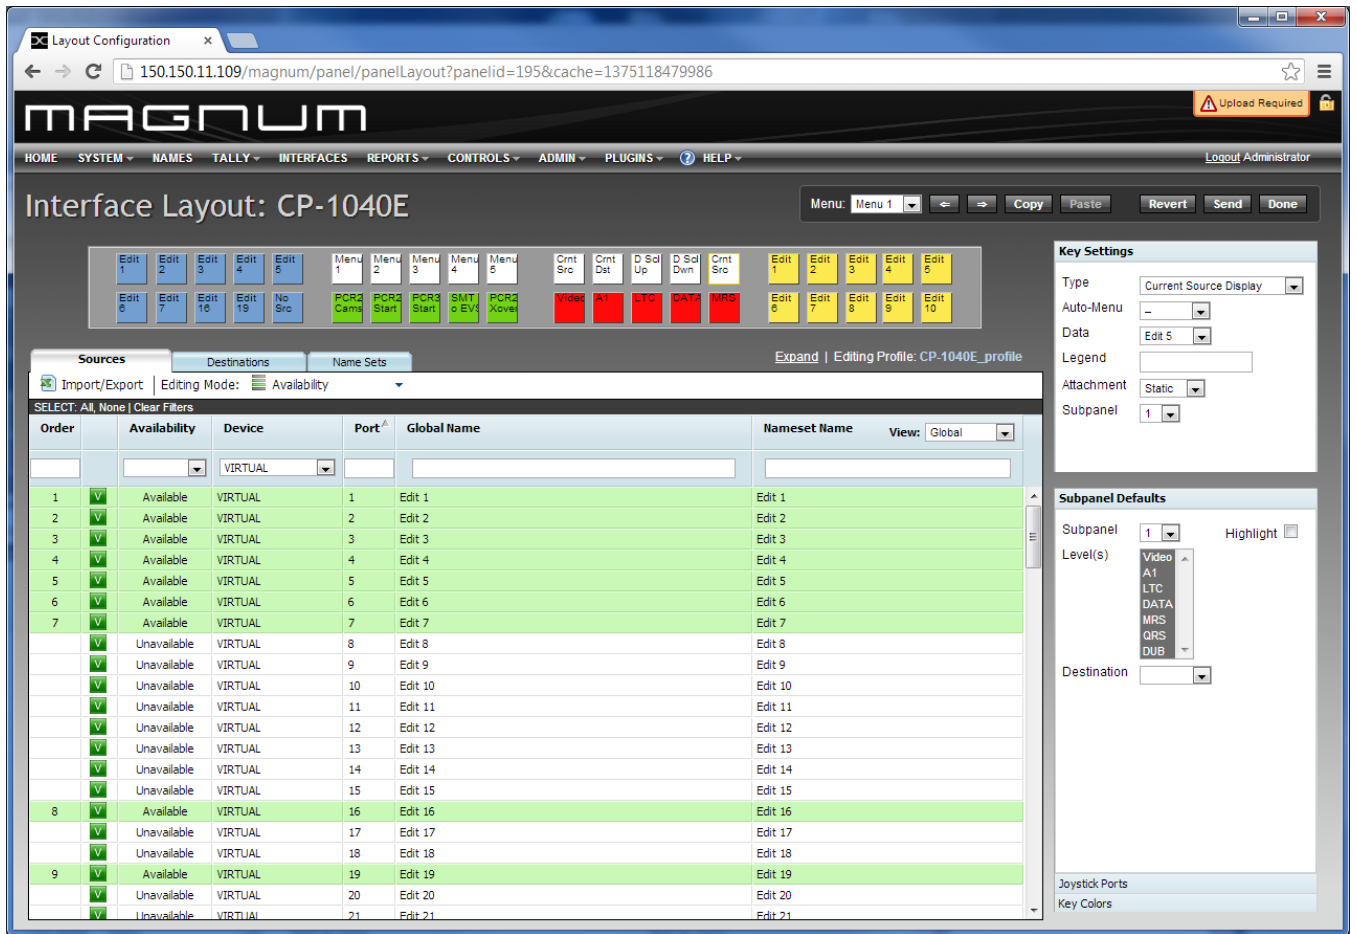

Figure 5-8: Populated Control Panel Interface
8. A fully populated interface will look similar to the configuration shown in Figure 5-8.